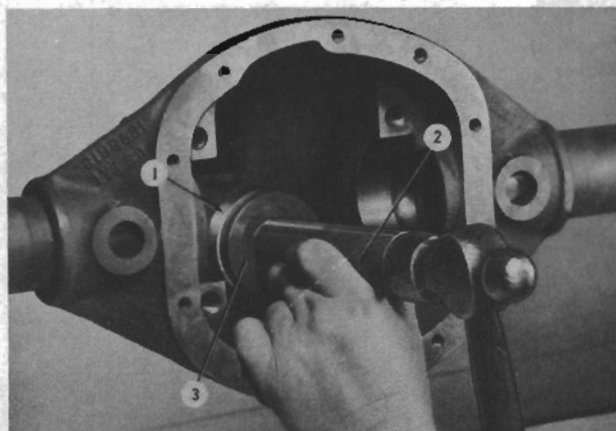

FIG. 10
PINION SHAFT—Using Bearing Cup Replacer Head J-270-6 with Driver Handle J-872-5, install the pinion bearing front cup. Then install the original pack of pinion adjusting shims which was removed from this point during the disassembly and, with the Handle J-270-1 (2, Fig. 10) and Driver Head J-270-14 (3), install the pinion bearing rear cup (1) on top of the shims. Using an arbor press and a suitable pipe, press the rear bearing cone on the pinion. The pipe must contact only the inner bearing race, not the bearing roller race.